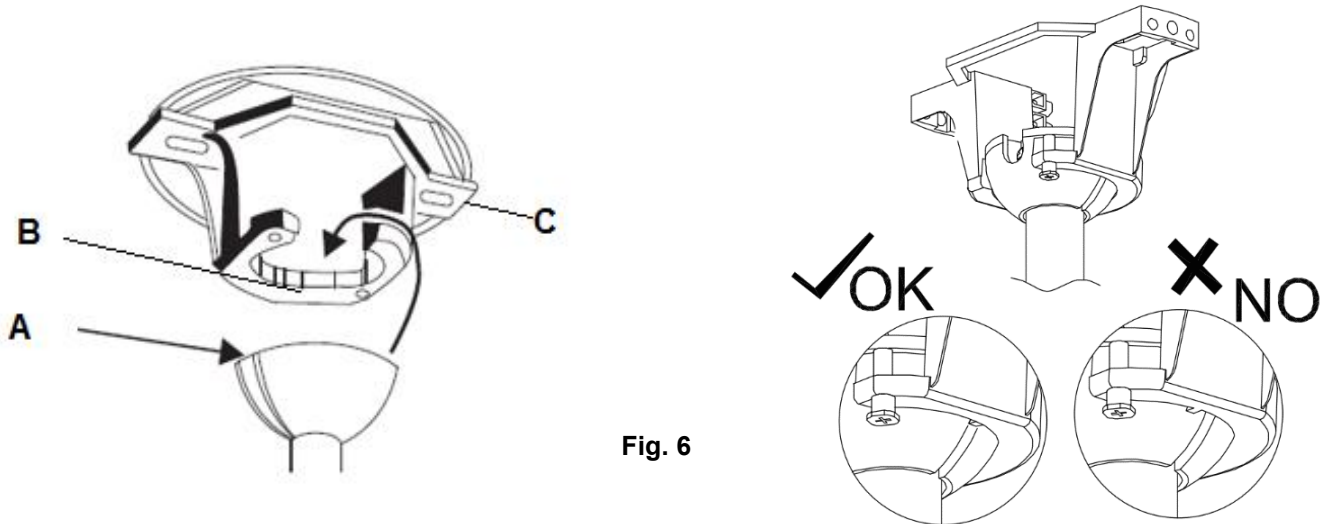

Fig. 6
Lift the fan assembly onto the mounting bracket. Ensure the key slot (A) of the hanger ball is positioned on the key pin (B) of the mounting bracket (C) to prevent the fan from rotating when in operation. (Fig. 6)
PREPARE AND COMPLETE THE ELECTRICAL WIRING --- WIRING DIAGRAM (FIG. 6)